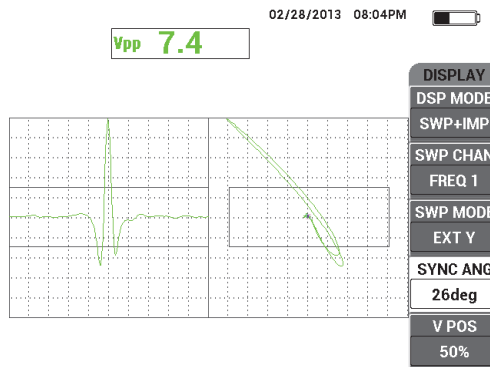

Figure 5-68 Adjusting the sync angle
9. Press the DISP menu key () , and then set the **SYNC ANG** (D key) to center the notch signal on the strip chart (see Figure 5-68 on page 176).